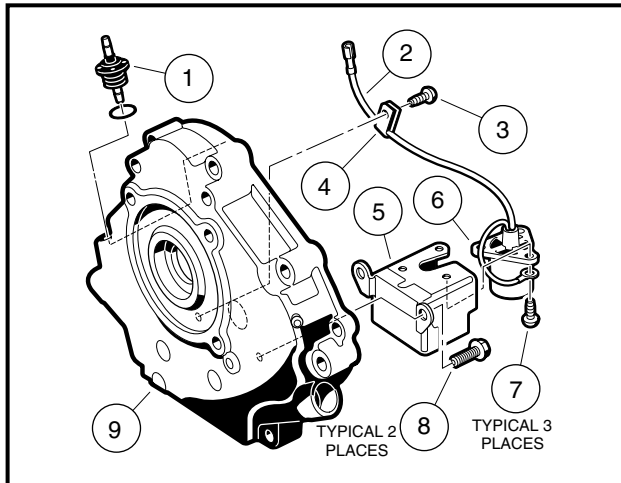

Figure 13-4 Oil Level Sensor
2. Disconnect the oil level sensor wire (2) from the cord connection (1) (**Figure 13-4, Page 13-5**).
3. Remove the two mounting screws (8) from inside of the crankcase cover and remove the oil level sensor and bracket.
1. If the oil level sensor was removed from the bracket, install sensor (6) into bracket (5) and secure with three screws (7) and tighten to 17 in-lb (1.9 N·m) (**Figure 13-4, Page 13-5**).
2. Position the sensor and bracket on inside of crankcase and install two mounting screws (8).
3. Connect sensor wire (2) to cord connector (1).
4. Install screw (3) through wire clamp and into crankcase cover. Tighten to 30 in-lb (3.4 N·m).